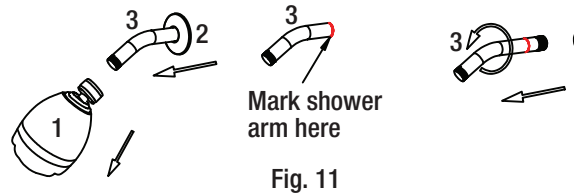

Fig. 11
- Disassemble your existing shower head (1). Pull away from the wall cover (2) that is in the area where the shower arm (3) meets the wall. Mark clearly on your existing shower arm, the level at which the wall meets the shower arm, see Fig. 11.
- Remove your existing shower arm (3) from the wall using a wrench and turning it counter-clockwise. DO NOT DISCARD YET.